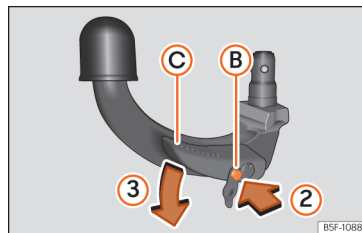

Fig. 265 Step 2.
- Press the release bolt (B) in the direction of arrow ②, and at the same time press lever (C) in the direction of arrow ③ as far as it will go »» Fig. 265.